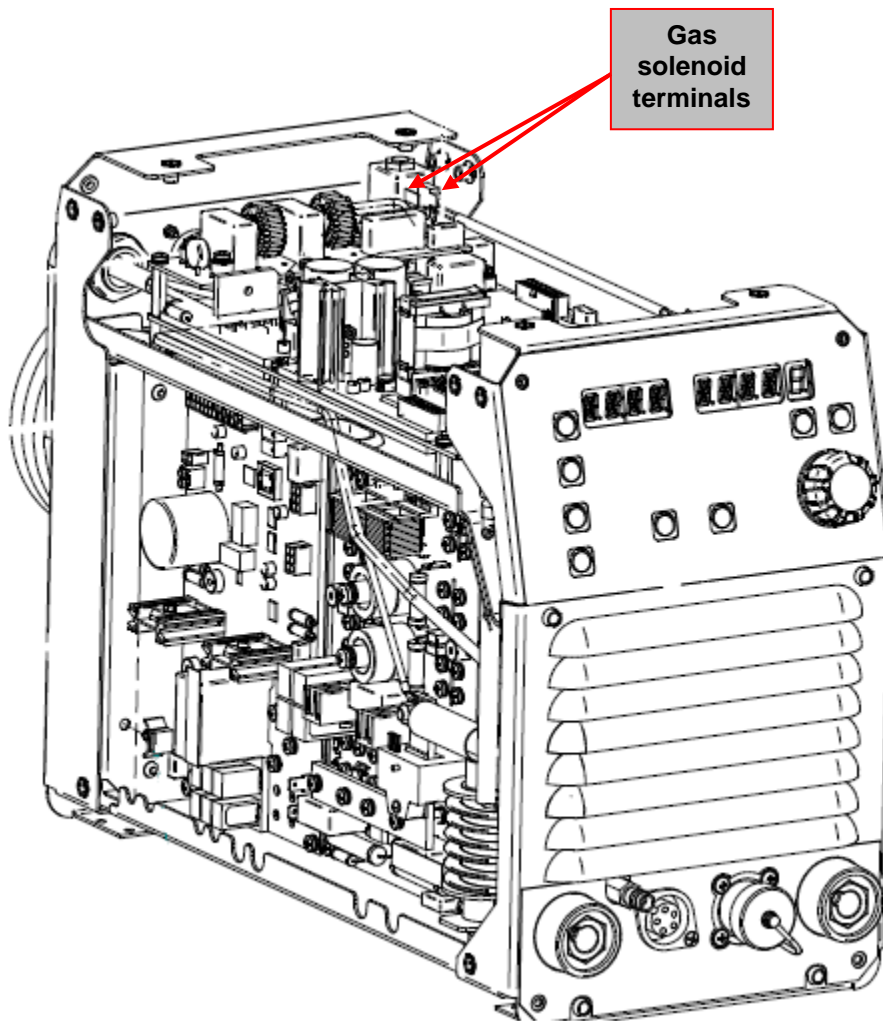

Figure 14 – Gas Solenoid location
3. Locate the **Gas Solenoid**. See **Figure 14**.